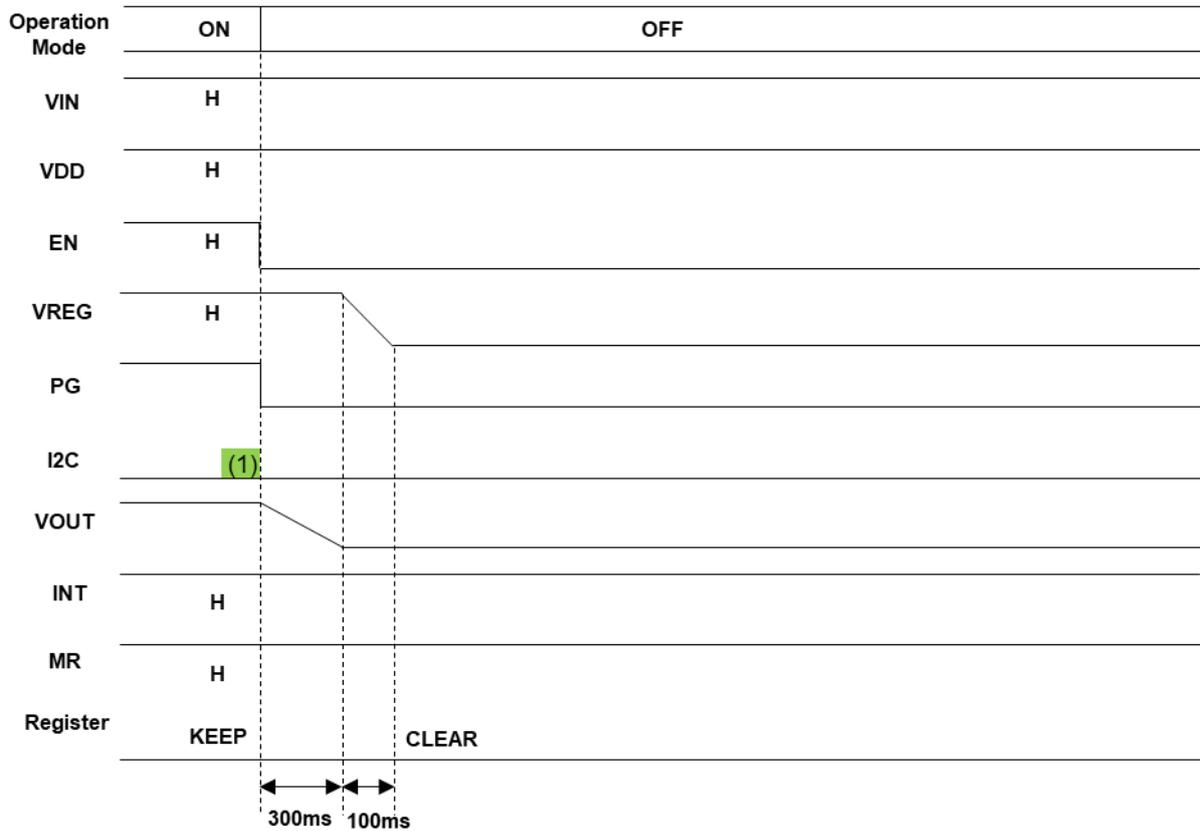

Figure 2.3 Stop Timing (ON to OFF)
Figure 2.3 shows the transition timing from ON Mode to OFF Mode. By inputting "Low" to the EN terminal at ON mode, VOUT stops and is discharged through the built-in discharge circuit (1). The discharge circuit operates until the VOUT output voltage drops to 0.4 V(typ.). When it becomes 0.4 V(typ.) or less, the discharge stops and VOUT becomes HiZ. At this time, the VREG also stops, and the register information in RAA230161GSB is also cleared. When restarting, set the register again.